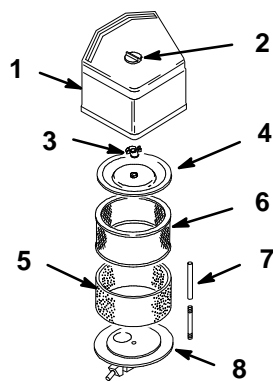

Figure 15
3. Clean around the air cleaner to prevent dirt from getting into the engine and causing damage. Remove knob and the air cleaner cover (Fig. 15).
4. Carefully slide the foam element off the paper element (Fig. 15).
5. Unscrew the cover nut and remove the cover and paper element (Fig. 15).
1. Carefully slide the foam element onto the paper air cleaner element (Fig. 15).
2. Slide the air cleaner assembly and cover onto the long rod. Now screw the cover nut finger-tight against the cover (Fig. 15).
3. Install the air cleaner cover (Fig. 15).